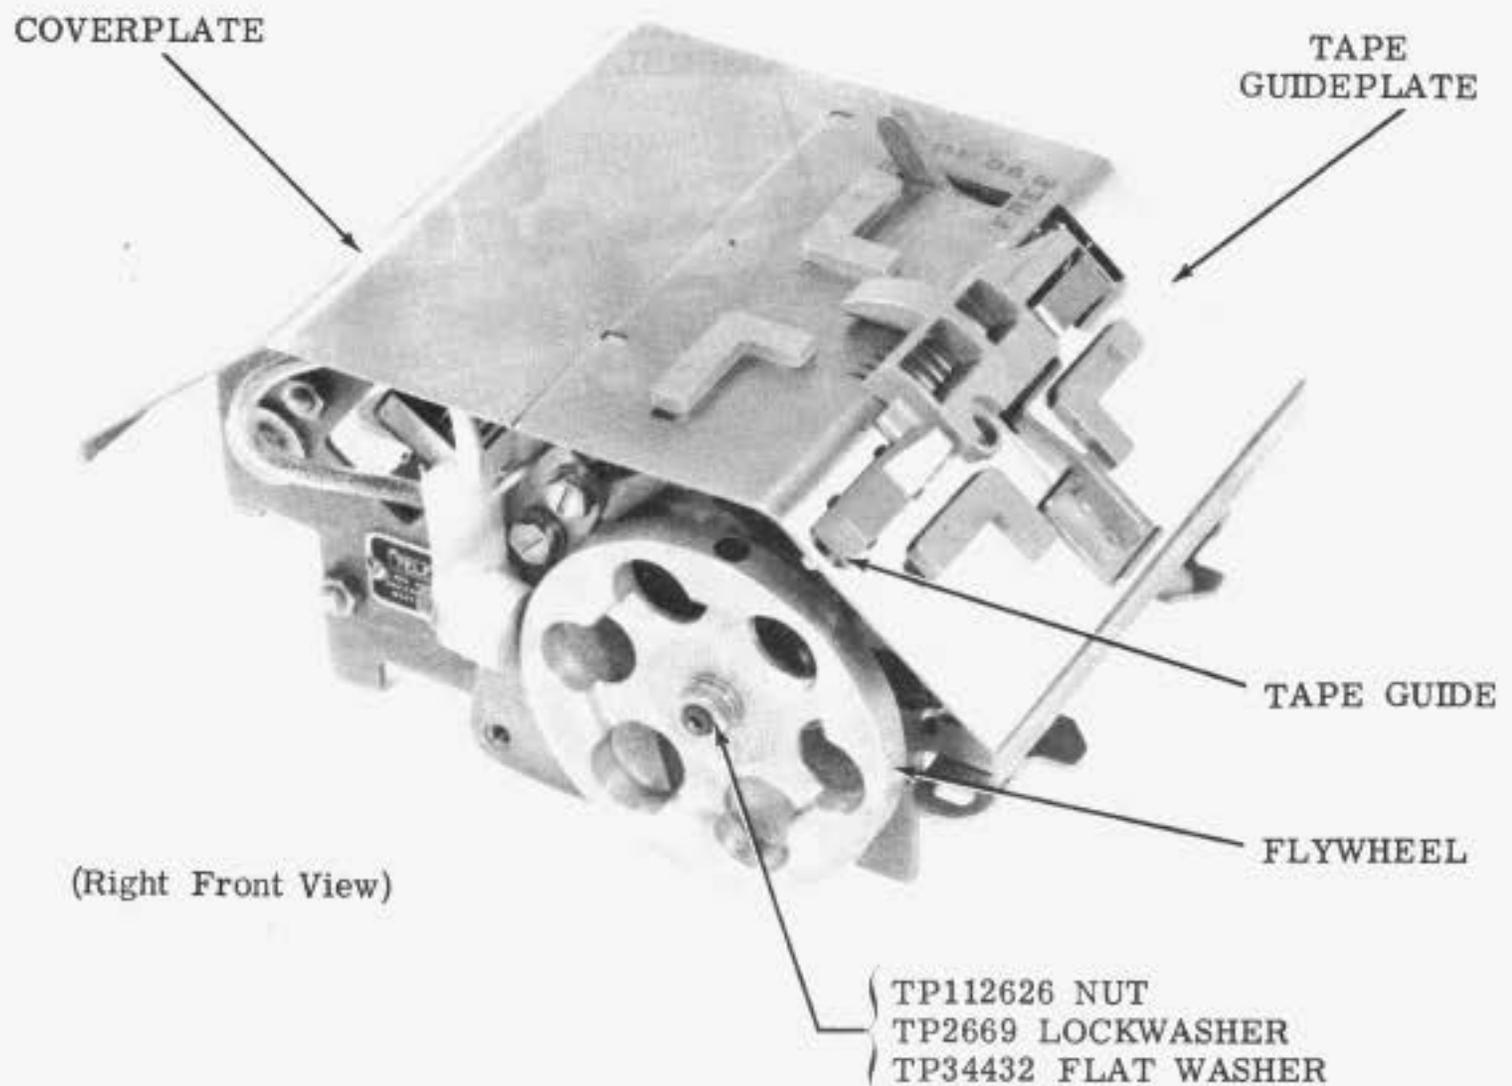

Figure 3 - Tape Reader Unit
- (1) Remove the driven gear or driven sprocket, whichever is applicable (2.01).
- (2) Remove the TP151688 screw, the two TP125011 flat washers, the TP3640 lockwasher, and the TP3599 nut. (The TP151688 screw passes through the main shaft at the flywheel shoulder.)
- (3) While holding the TP12782 flywheel firmly, remove the TP112626 nut, TP2669 lockwasher, and TP34432 flat washer (Figure 3).
2.20 To remove any of the four adjustable tape guides (TP179516 or TP179517), remove the associated nut, flat washer and spring (Figure 3).